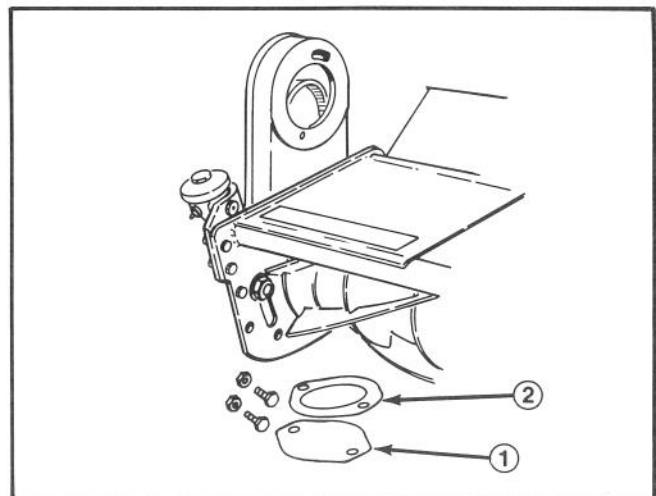

Figure 10
- Remove locknuts, bolts, shipping cover and drive plate shield (Fig. 10) from the cutting unit.